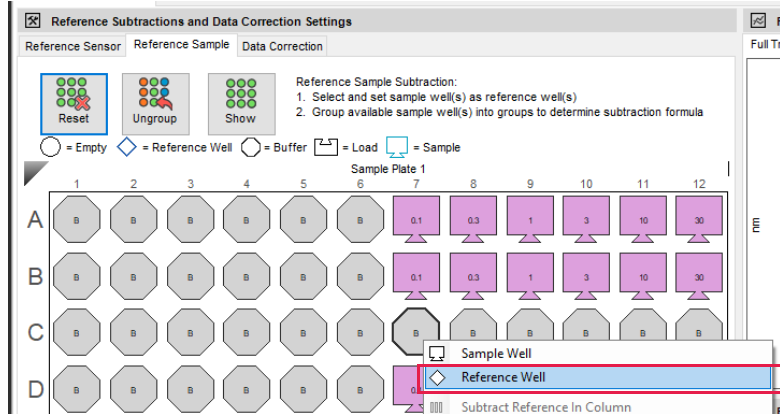

Figure 4-50: Setting the Reference Sample Well
2. Right-click the well and select **Reference Well** (Figure 4-50).